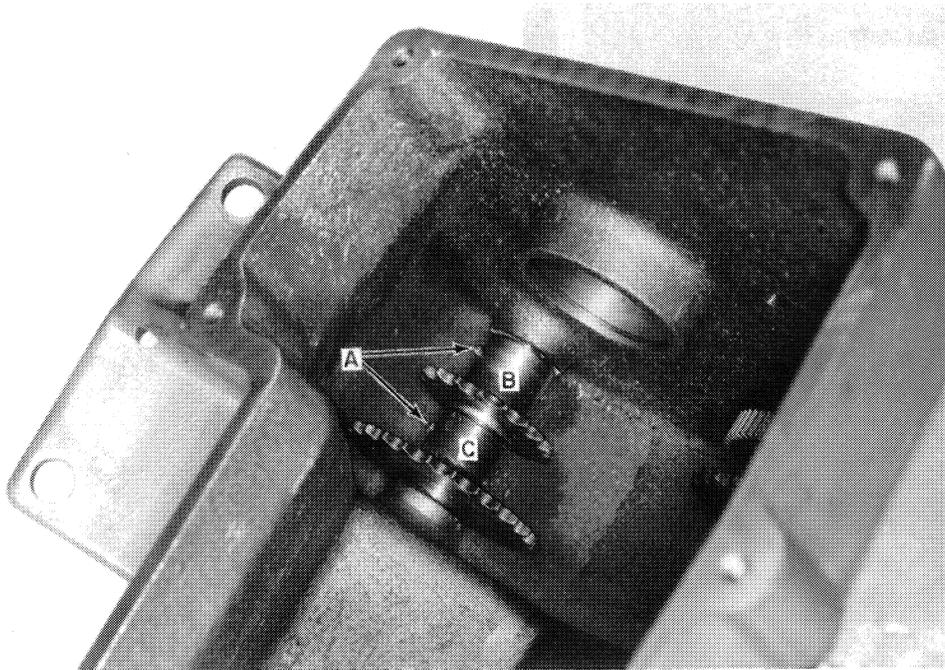
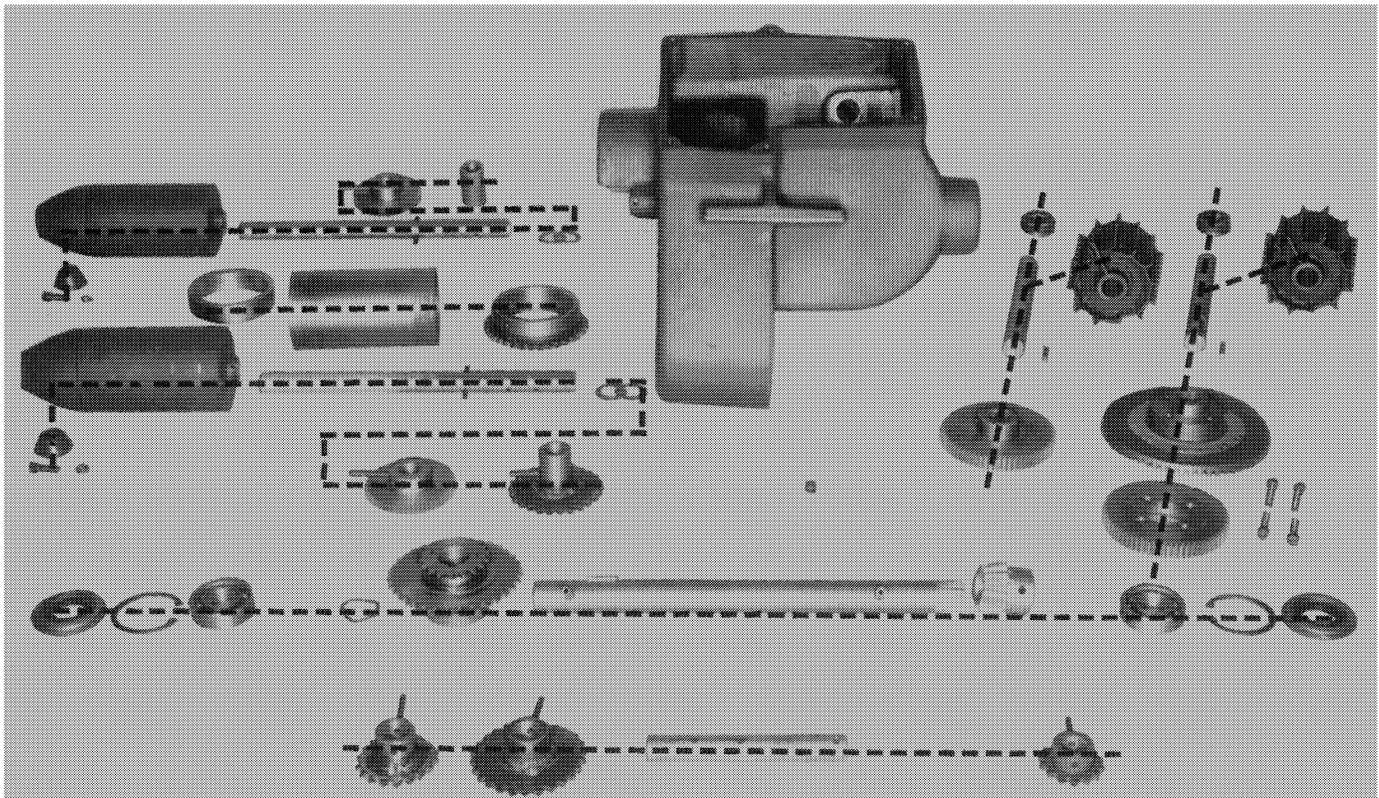

FIGURE 18
FIGURE 19
17. Remove the conveyor drive jack shaft sprockets, B and C, Figure 18, by removing the two friction pins at A. The conveyor drive jack shaft can now be slid out of the gearbox housing. **NOTE: There is an externally mounted gear on this shaft which is the drive gear for the conveyor system, refer to FF, Figure 19.**
18. Refer to Figures 19 and 20 for descriptions and locations of gearbox components.